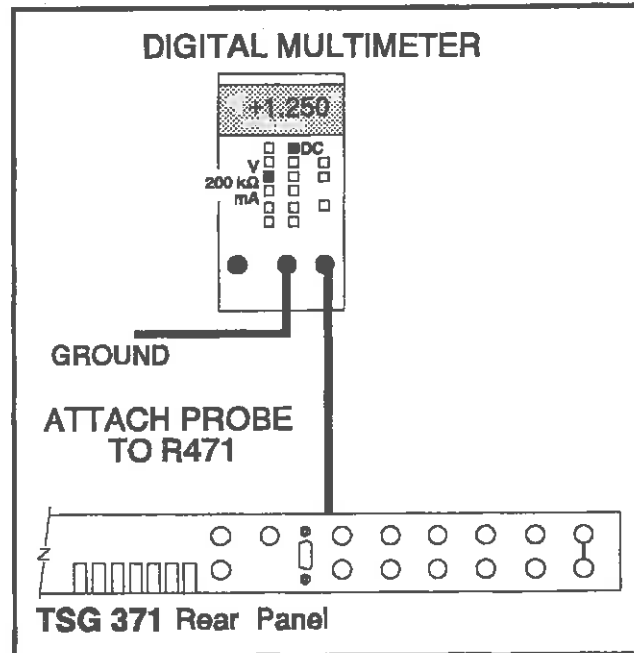

Fig. 5-14. Setup to adjust R469.
- a. Connect the equipment as shown in Fig. 5-14.